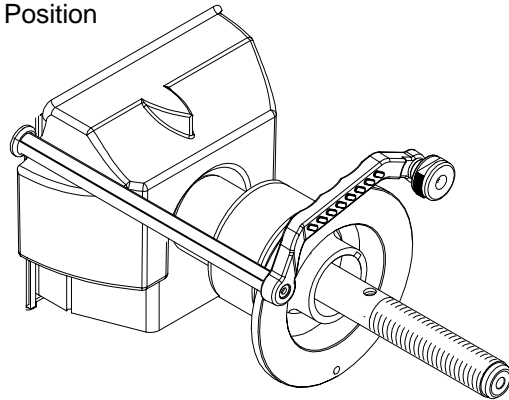

Figure 42 - SAPE Rod Arm Fully Extended
4. Gently pull the **SAPE** arm **OUT** until it is fully extended, (Figure 42) hold it steady for about 1 second, a tone will sound. The B5000 SAPE arm will pull out past the Bell Housing Face.